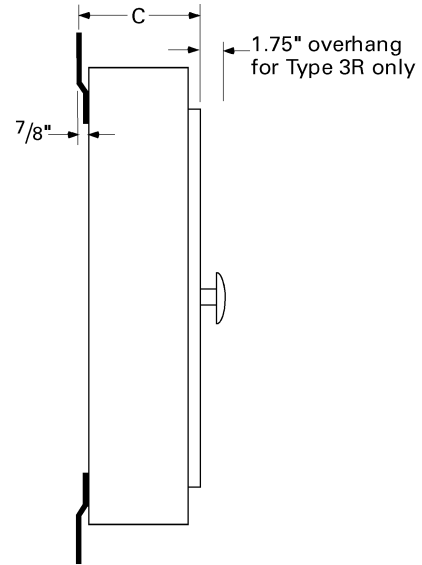
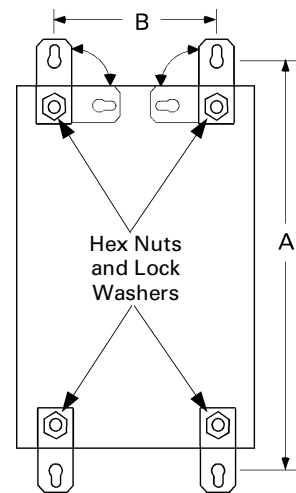

Figure 1. Side view of enclosure.
Figure 2. Rear view of enclosure.
This publication describes the installation of type APBR (NEMA 3R) and type APBD (NEMA 12) enclosures. Table 1 lists the enclosure sizes available. Table 2 lists the catalog numbers of the hubs available for various conduit sizes. Figures 1 and 2 illustrate side and back views of the enclosures, with dimensions indicated.
1. Remove two hanger brackets along with two $1/2$ -13 hex nuts and lock washers from the lower mounting studs and remove the shipping support. Reinstall the hanger brackets with the lock washers and nuts as shown in Figure 2. Loosen the upper hanger mounting nuts and rotate the brackets to the vertical position, as shown in Figures 1 and 2. Tighten the four $1/2$ -13 hanger nuts to 45 ft-lbs. Mount the enclosure in the designated area.